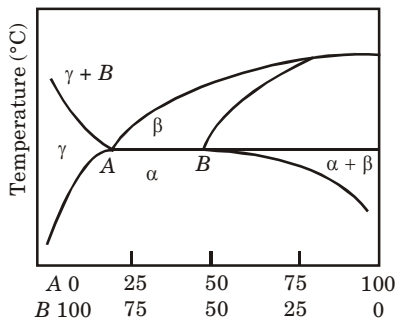

Fig. 3.15.1. Peritectoid phase diagram.
- In the given (Fig. 3.15.1), at point A